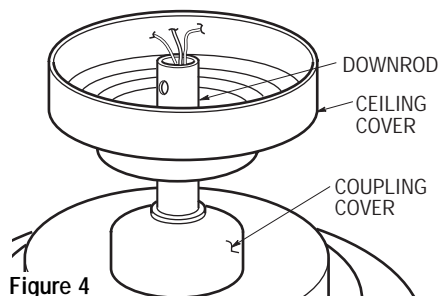

Figure 4
- 4. Make sure the grommet is properly installed in the coupling cover, then slide the coupling cover on the downrod until it rests on the motor housing. Place the ceiling cover over the downrod. Be sure that the ceiling cover and the coupling cover are both oriented correctly (Figure 4).